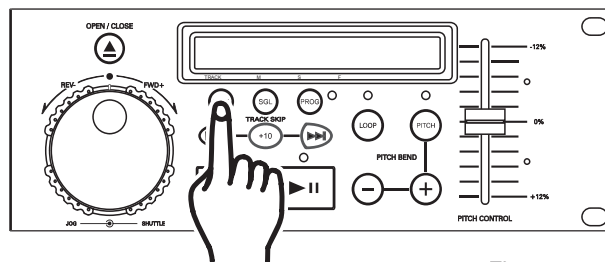

Figure 11
10. CHANGING THE TIME DISPLAY (30, 31, & 32)/TIME BAR (33):
The time may be displayed in three different modes; Elapsed and Remain. During normal playback, pressing the *TIME BUTTON* (3) as in figure 11, will change the time display information (30, 31, 32, & 33) in the LCD. The following is a break down of the time settings and their definitions:
1) *ELAPSED* (34) - This details the time in the *LCD* (30, 31, & 32) as the current tracks' elapsed running time. The elapsed function only details a tracks elapsed time and not the entire disc.
2) *REMAIN* (37) - This details the time in the *LCD* (30, 31, & 32) as the current tracks' remaining running time.